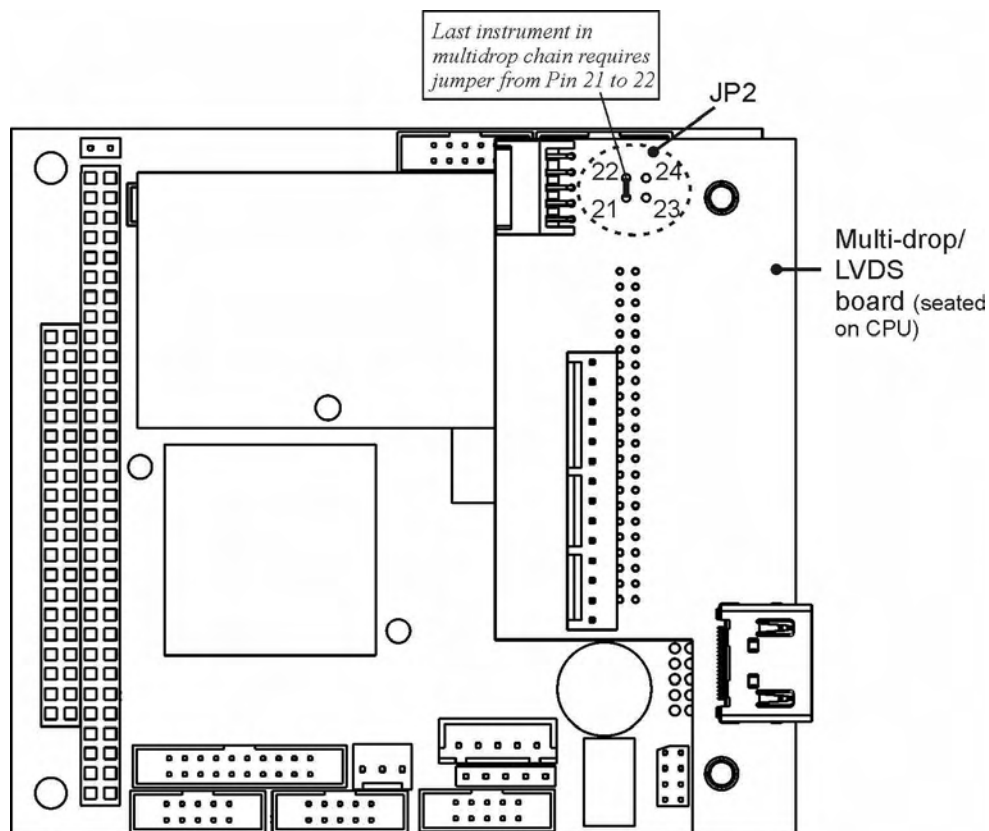

Figure 8-1: JP2 Pins on RS-232-Multidrop PCA
2. On the multidrop PCA's JP2 connector, use the shunt provided to jumper Pins 21 ↔ 22 as indicated in Figure 8-1.